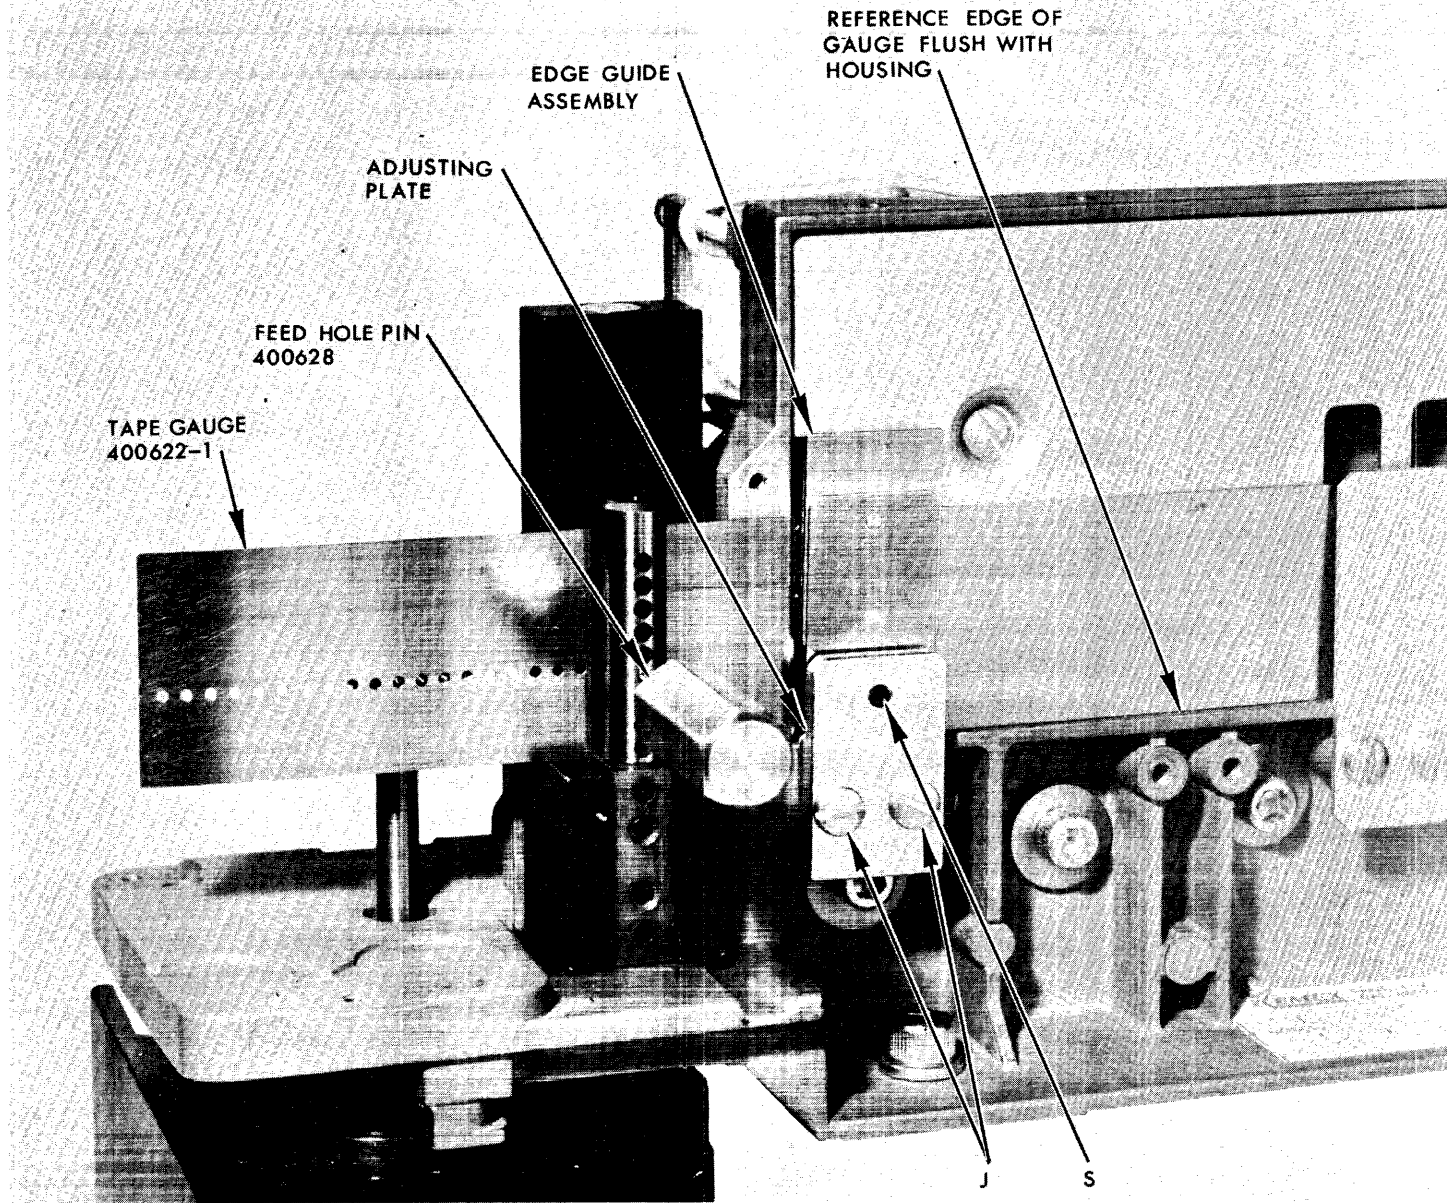

Figure 6-1. Tape Guide and Edge Guide Assembly Alignment.
- a. Remove the 2-56 socket head screw (H), lock and flat washer which hold the tape guide to the perforator housing.
- b. Remove the 4-40-1/4" binder head screws (J) which hold the two backing plates and edge guide assembly to the perforator housing. Screws labeled (J) in Figure 6-1 are the same as labeled (J) in Figure 7-1.
- d. Insert tape gauge 400622-1 (8-track) or 400622-2 (6-track) so that the reference edge of the gauge is flush against the reference edge of the perforator housing. Refer to Figure 6-1.
- e. Position the edge guide squarely along the edge of the tape gauge so that the edges are parallel and the gauge just moves through without any play. Tighten the two screws (J).